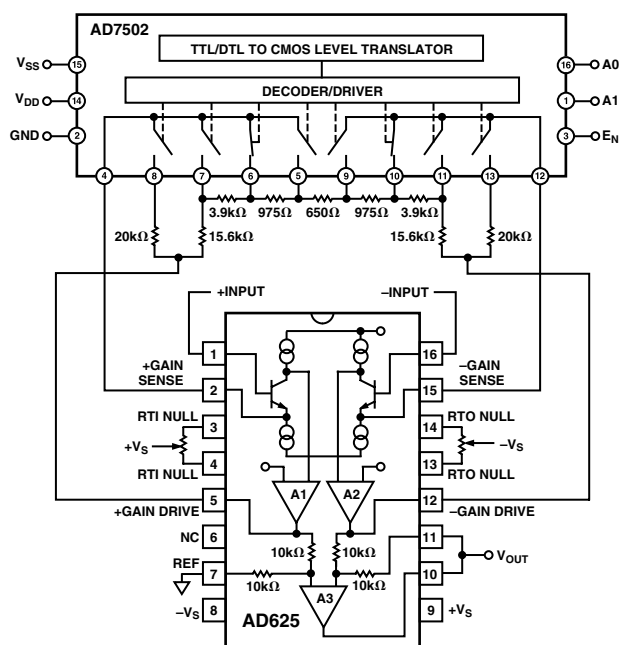

Figure 38. SPGA in a Gain of 16
Figure 38 shows an AD625 based SPGA with possible gains of 1, 4, 16, 64.  $R_G$  equals the resistance between the gain sense lines (Pins 2 and 15) of the AD625. In Figure 38,  $R_G$  equals the sum of the two 975  $\Omega$  resistors and the 650  $\Omega$  resistor, or 2600  $\Omega$ .  $R_F$  equals the resistance between the gain sense and the gain drive pins (Pins 12 and 15, or Pins 2 and 5), that is  $R_F$  equals the 15.6 k $\Omega$  resistor plus the 3.9 k $\Omega$  resistor, or 19.5 k $\Omega$ . The gain, therefore equals:
can be used to calculate the necessary feedback resistors for any set of gains. This formula yields a network with a total resistance of 40 kΩ. A dummy variable (j) serves as a counter to keep a running total of the preceding feedback resistors. To illustrate how the formula can be applied, an example similar to the calculation used for the resistor network in Figure 38 is examined below.
- 2) Before making any calculations it is advised to draw a resistor network similar to the network in Figure 41. The network will have  $(2 \times M) + 1$  resistors, where M = number of gains. For Figure 38 M = 3 (4, 16, 64), therefore, the resistor string will have seven resistors (plus the two 20 kΩ “side” resistors for unity gain).
- 5) If different resistor values are desired, all the resistors in the network can be scaled by some convenient factor. However, raising the impedance will increase the RTO errors, lowering the total network resistance below 20 kΩ can result in amplifier instability. More information on this phenomenon is given in the RPGA section of the data sheet. The scale factor will not affect the unity gain feedback resistors. The resistor network in Figure 38 has a scaling factor of  $650/625 = 1.04$ , if this factor is used on  $R_{F_1}$ ,  $R_{F_2}$ ,  $R_{F_3}$ , and  $R_G$ , then the resistor values will match exactly.